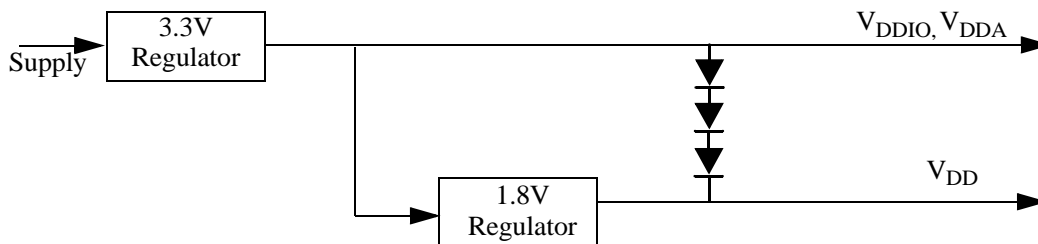

Figure 4. Example Circuit to Control Supply Sequencing
V_{DD} should not be allowed to rise early (1). This is usually avoided by running the regulator for the V_{DD} supply (1.8V) from the voltage generated by the 3.3V V_{DDIO} supply, see Figure 4. This keeps V_{DD} from rising faster than V_{DDIO} .
V_{DD} should not rise so late that a large voltage difference is allowed between the two supplies (2). Typically this situation is avoided by using external discrete diodes in series between supplies, as shown in Figure 4. The series diodes forward bias when the difference between V_{DDIO} and V_{DD} reaches approximately 2.1, causing V_{DD} to rise as V_{DDIO} ramps up. When the V_{DD} regulator begins proper operation, the difference between supplies will typically be 0.8V and conduction through the diode chain reduces to essentially leakage current. During supply sequencing, the following general relationship should be adhered to: